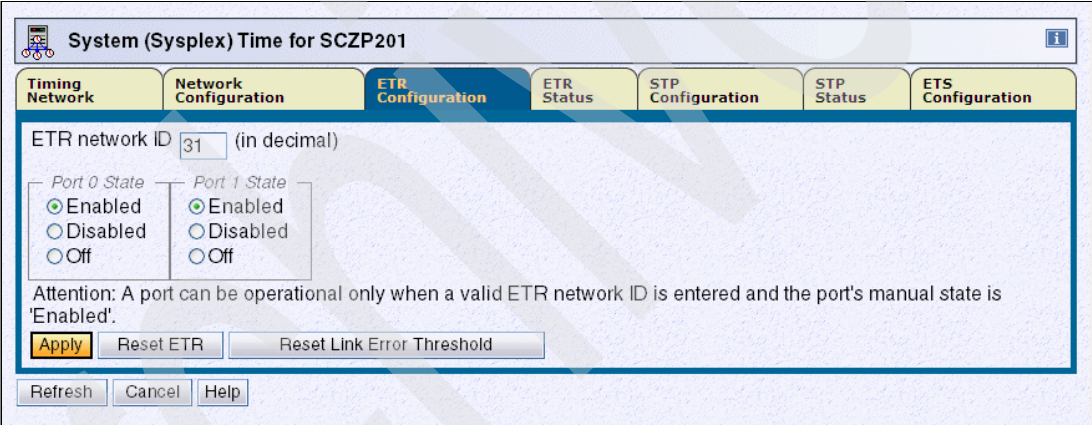

Figure 7-9 Define ETR Network ID
1. From the ETR Configuration tab set the state to Enabled for both Port 0 and Port 1, and enter the ETR Network ID to match one of the existing Mixed CTNs. Click **Apply**. The CTN ID for the server becomes [] - [31], in line with the value already defined in our example Mixed CTN. See Figure 7-9.